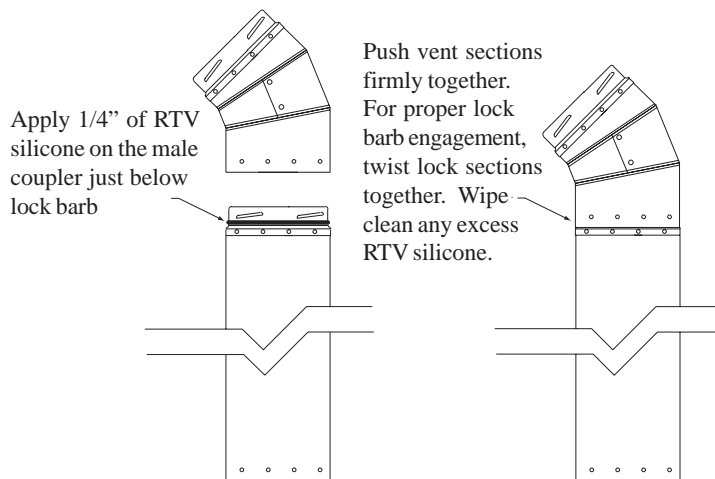

FIGURE 1
13. To ensure a good gas tight seal for positive pressure venting the application of an RTV high temperature silicone to the male collar of the joint is recommended (see Figure 1).
1.10 Install the next VENT section(s) above the first. Apply 1/4" bead of RTV if necessary as per Figure 1. Twist lock sections together with a clock wise turn. Before twisting, push vent sections firmly together for proper lock barb engagement. Enough twisting force must be applied to ensure that the collars will compress the gasket material.